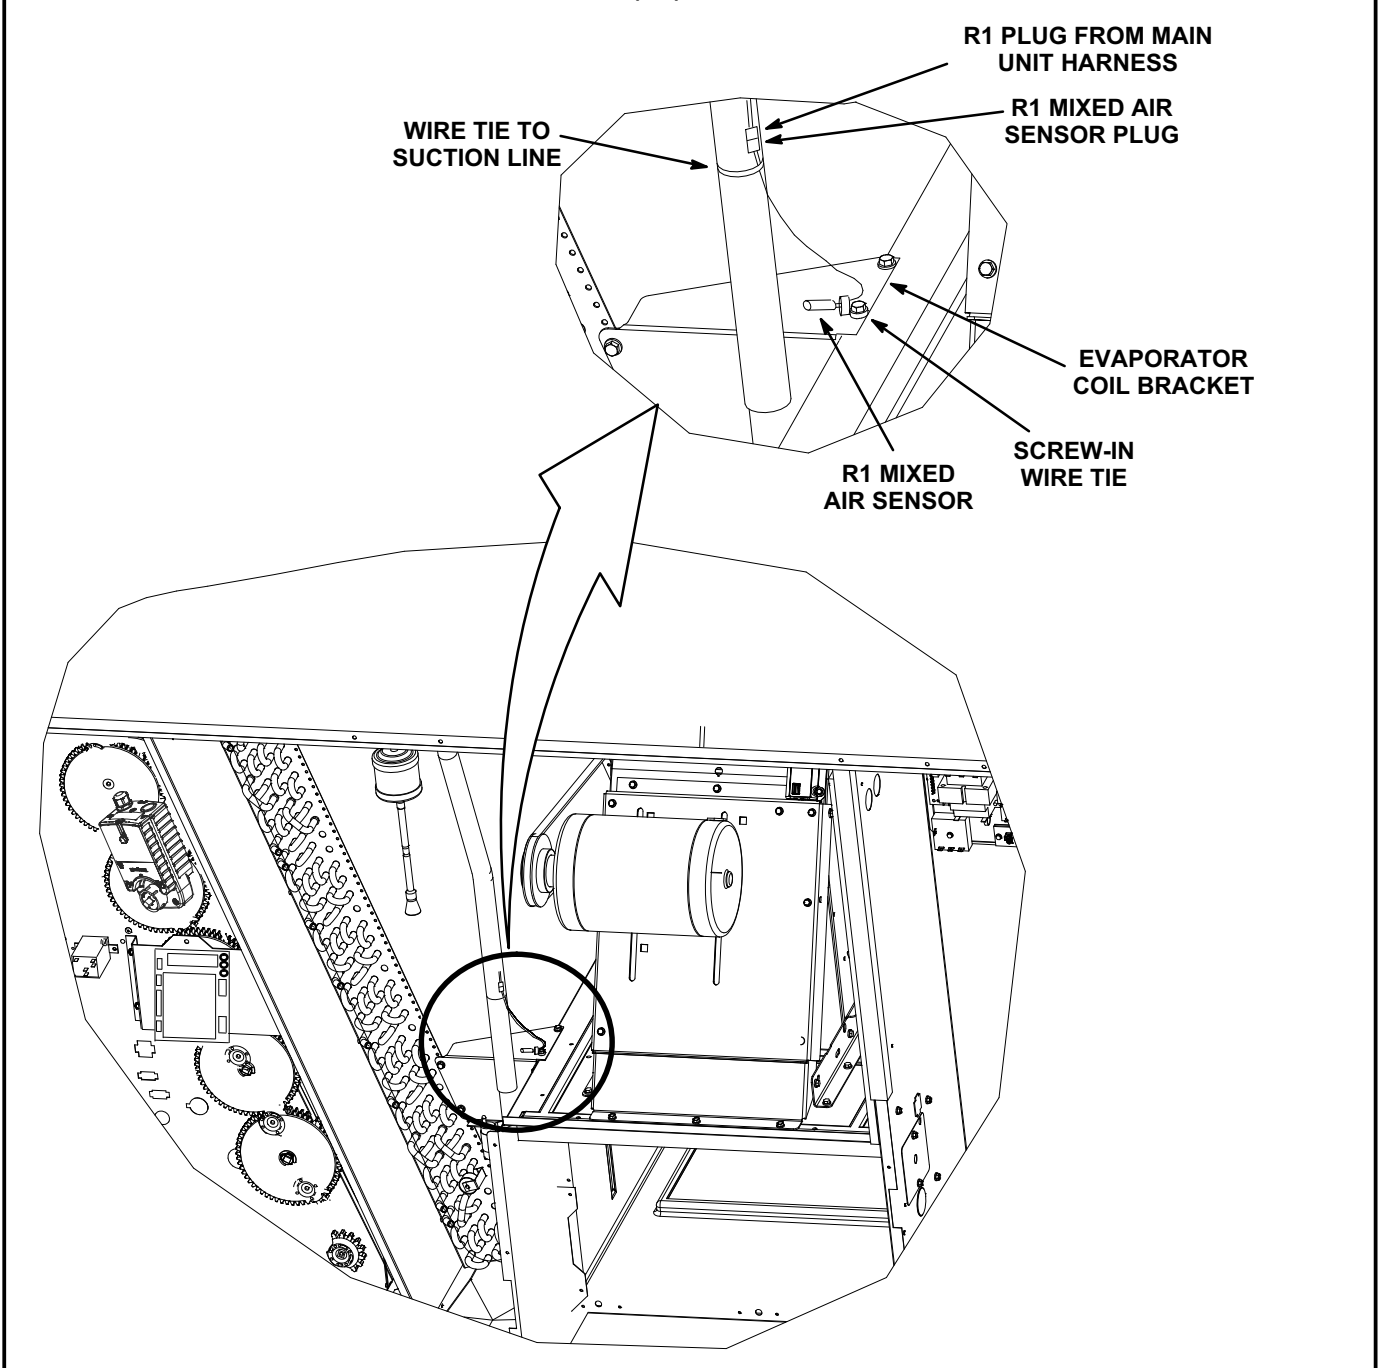

FIGURE 7
- 1- Install mixed air sensor R1, provided in kit, on indoor coil bracket. Connect the mixed air sensor to the "R1" plug hanging in the blower compartment. Secure with screw-in wire tie. See figure 7. Secure excess wire to the suction line.